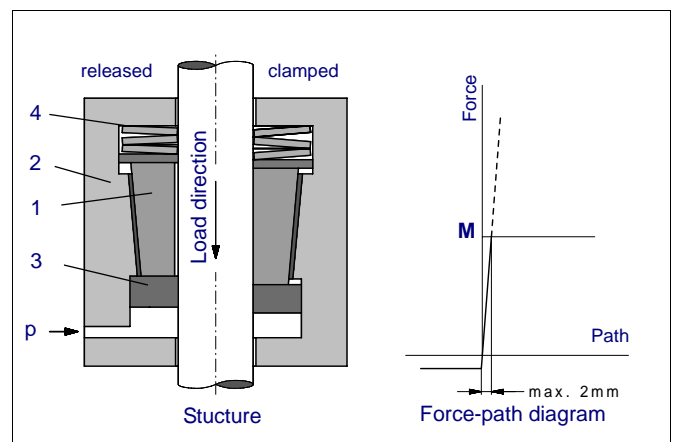

Fig. 1: Functional principle
As shown in Fig. 1, the clamping system consists of a conical clamping sleeve (1) movable within the conical housing (2).
Against forces in load direction (see Fig. 1) the rod will be totally blocked, the higher the force the stronger the grip. Therefore forces exceeding 2xM may cause damages of the device.